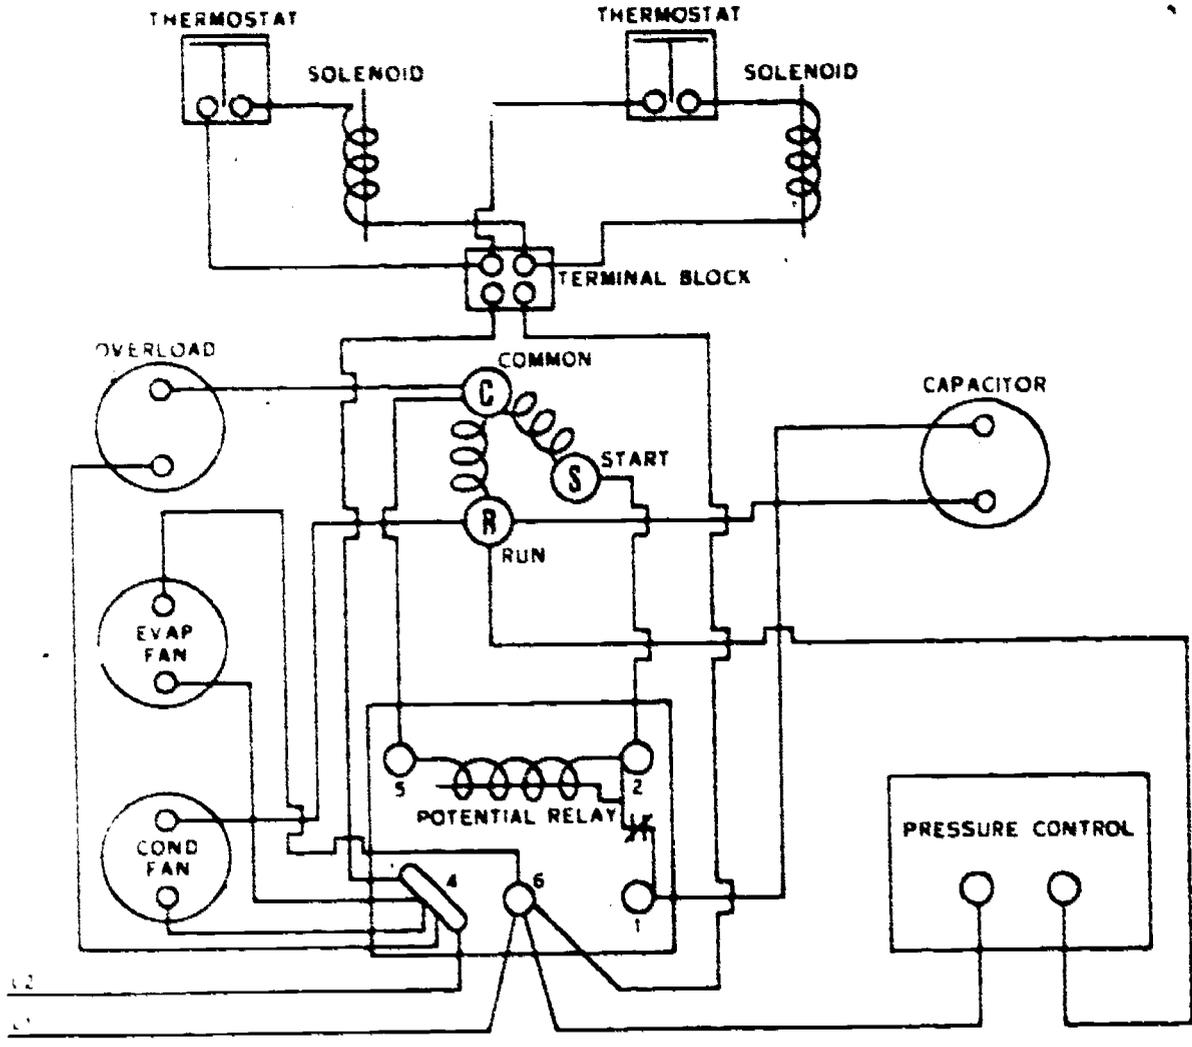

Figure 4. Solenoid Valve Multitemperature System
**SOLENOID VALVE MULTITEMPERATURE ELECTRICAL SYSTEM.** As you can see in figure 4, the electrical system for the solenoid valve multitemperature system is almost identical to the single temperature system. The only difference is the addition of a terminal block, two thermostats and two solenoids. The thermostats control the temperatures in each of the warmer refrigerated spaces. The thermostats do this by energizing and deenergizing the solenoids. The solenoid valves control the refrigerant flow to the evaporators of these warmer boxes. The refrigerant flow to the coldest evaporator is controlled solely by the DPMC.